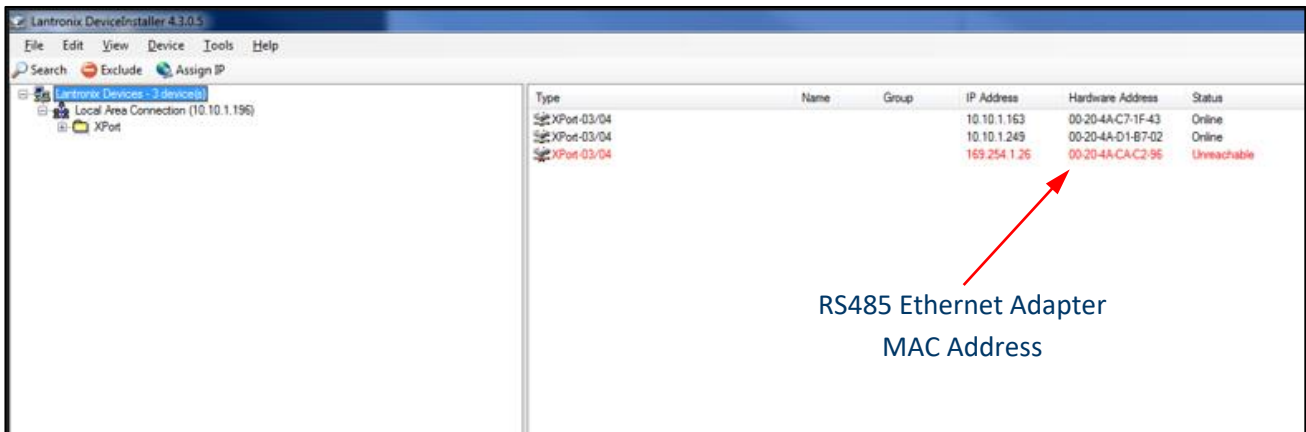

Figure 4-6 Detecting Attached Devices
1. Start the Lantronix DeviceInstaller program. DeviceInstaller will automatically begin searching for attached devices. The Hardware Address (MAC Address) for the RS485 Ethernet Adapter will be displayed as shown in Figure 4-6.